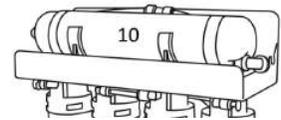

Figure 12
- Remove the three quick connect elbow fittings attached to both ends of the RO membrane (marked as 10 on figure 12). Remember correct attachment locations for the new membrane.